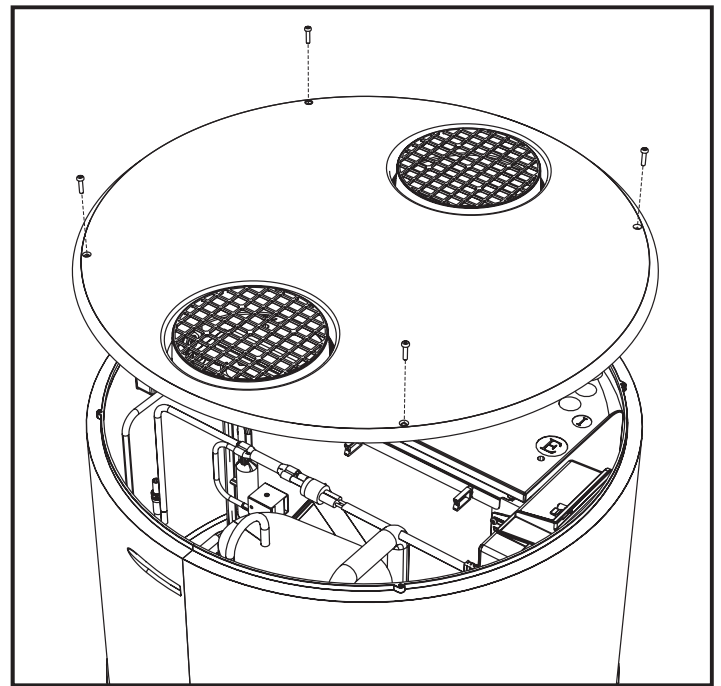

fig. 31- Top cover removal
- Remove the top cover by first undoing the locking screws (fig. 31).